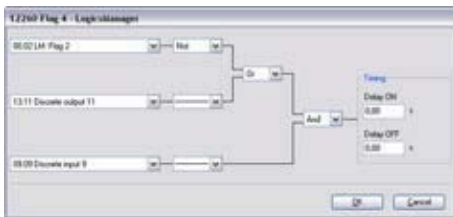

Fig. 170: LogicsManager function "Flag 4"
5. ➤ Configure the LogicsManager function "Flag 4" as shown in (Fig. 170).